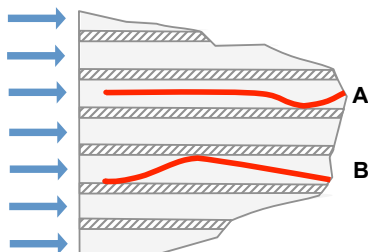

Figure 1. Catalytic converter channels with thin sheathed thermocouples (red) inserted from the rear against the flow direction.
**ANSWER:** When you insert a thermocouple so it sits freely in one of the channels inside the catalytic converter you will measure a temperature that is being affected by both the exhaust gas temperature and that of the channel wall. If the thermocouple tip is lying totally freely in the channel, see A in Figure 1, you will mainly be measuring the gas temperature but the wall temperature also has some effect. Heat is transferred from the gas to the thermocouple and channel wall via forced convection. The thin thermocouple is heated up faster than the channel wall and thereby reaches a slightly higher temperature than the wall. This means that heat is transferred from the thermocouple to the channel wall via radiation. In this case the wall temperature will affect the measurement result.
If the thermocouple tip is in contact with the channel wall, see B in Figure 1, the wall temperature will have a large influence on the measurement value. The heat exchange between the thermocouple and the channel wall occurs via heat conduction. As in the previous case, the heat is transferred from the gas to both the thermocouple and the channel wall via forced convection. The better the contact is between the thermocouple and the wall, the greater the influence of the wall temperature on the measurement result. In this case the influence of radiation on the measurement result is small.